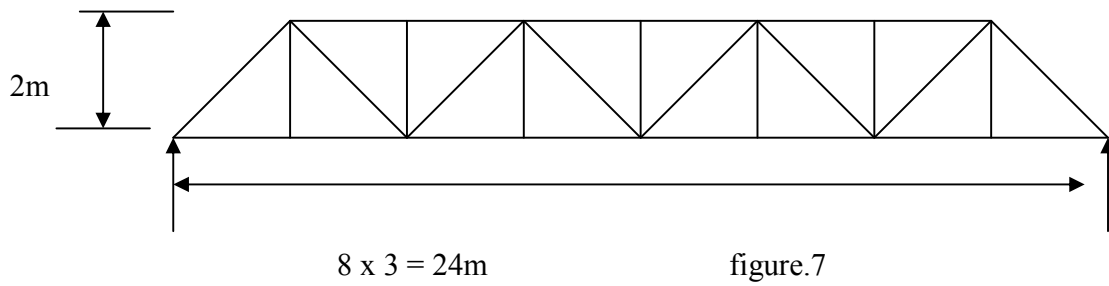

figure.7
- Q.5** (a) A simple support truss as shown in the figure.7 is loaded by a moving udl of 10kN/m traveling from left to right. Calculate the maximum axial force induced in the top chord and bottom chord. **05**